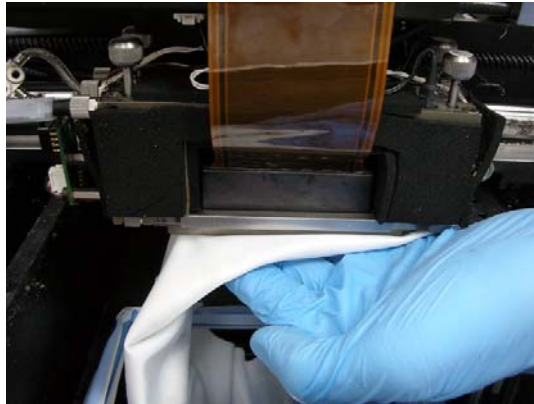

Figure 6-22: Cleaning the heads
9. Clean the orifice plates, with a back-and-forth motion (see figure 6-22). Use the mirror to make sure that you have removed all of the residue material.